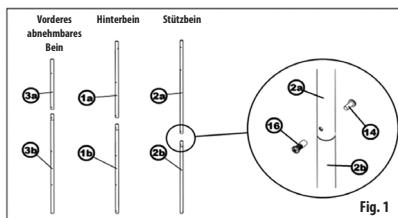

Fig. 1
Pair the stile tubes; their lengths with narrowed ends are the lower parts of each stile; their narrow ends should face upwards (**Fig. 1**). The supporting shoes (2a+2b) should be fastened with decorative screws (14) with tube nuts (16); the joints of other stiles will be hidden below the treads (7).